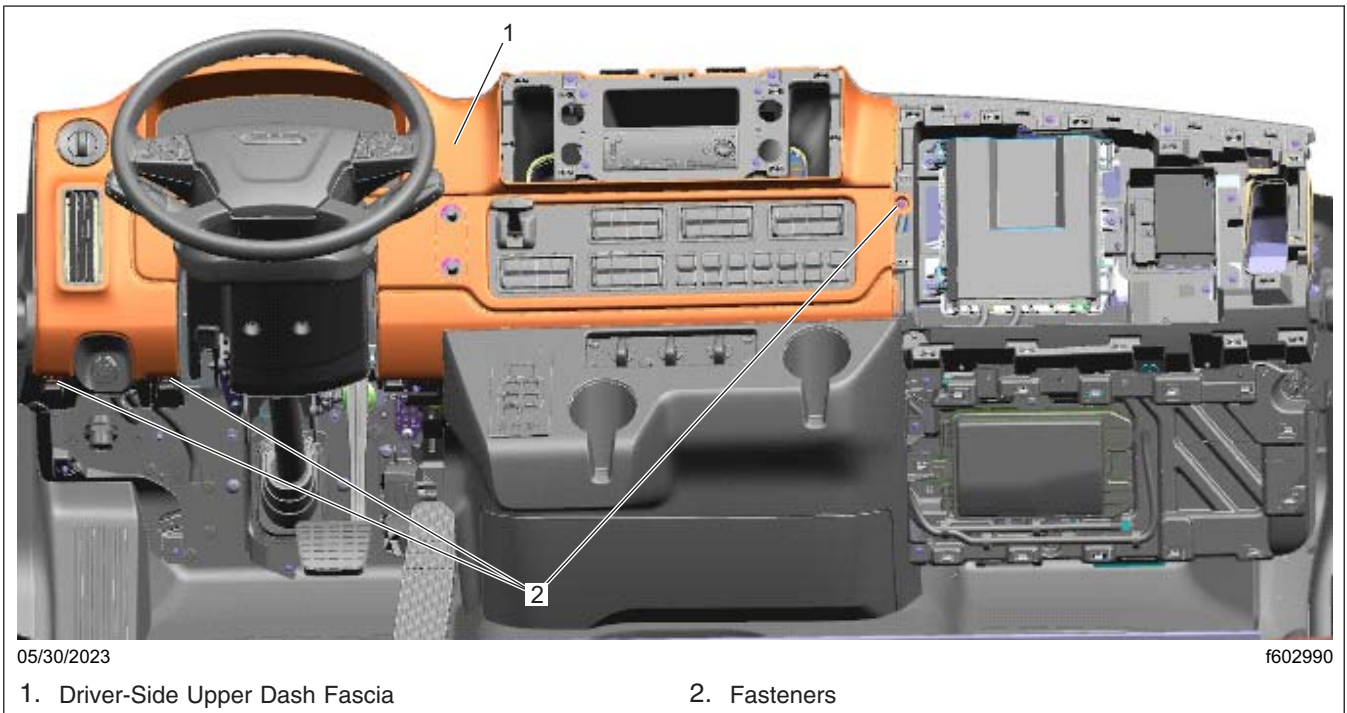

Fig. 9, Driver-Side Upper Dash Fascia
- 4.8 Remove the driver-side upper dash fascia. See Fig. 9.